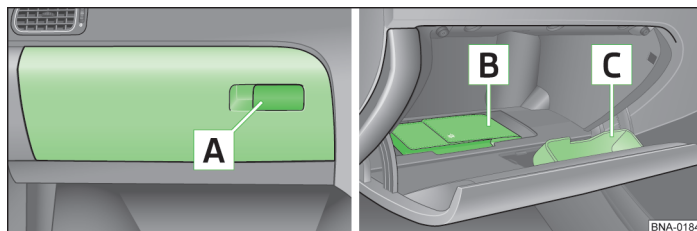

Fig. 39 Close storage compartment on the front passenger side / Open storage compartment on the passenger side
- To *open*, pull the opening lever  » fig. 39.